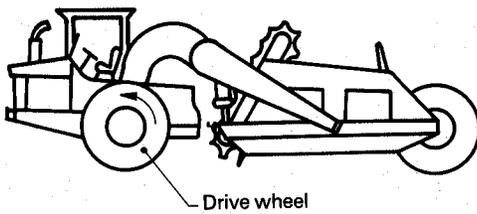

Figure 9 — Front wheel drive
5.1.5.1 Front wheel drive (figure 9)